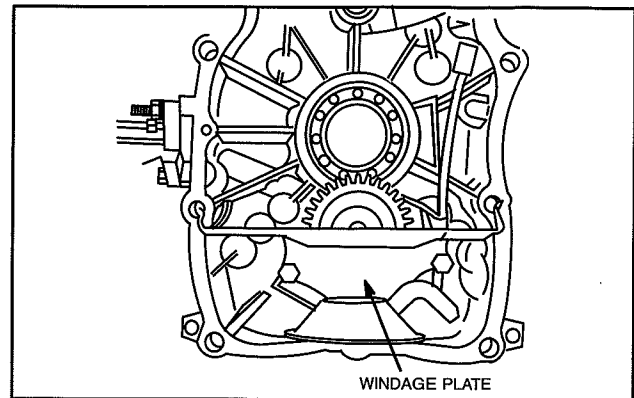

Fig. 24 – Remove Windage Plate
1. Remove two screws and oil pump gear baffle or windage plate, if equipped, Fig. 24.